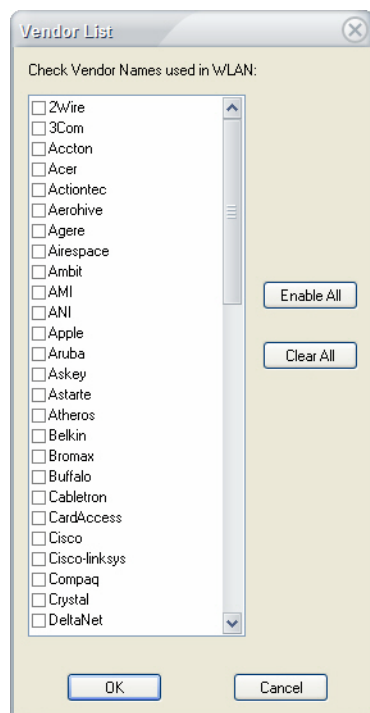

Figure 12-17: Selecting device vendors
- 6) To specify vendors for the APs in use, click **Select from vendor list**. The Vendor List dialog box appears. See Figure 12-17.